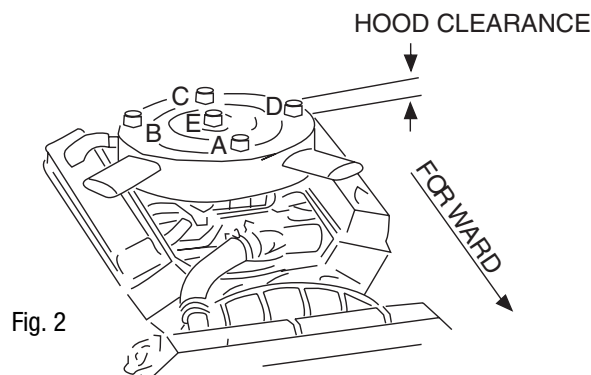

Fig. 2
4. See Figure 2 and record measurements in blank spaces labeled A-B-C-D-E.